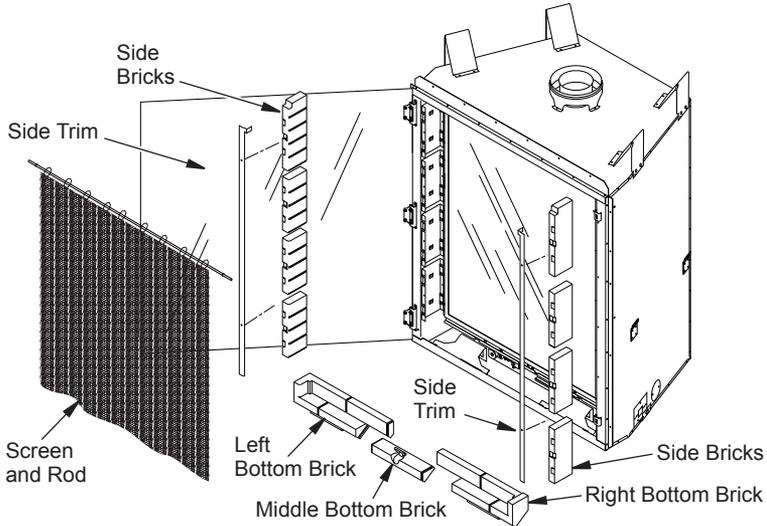

Figure 27 - Removing/Installing Brick, Side Trim and Screen
3. Remove screws from two side trims (see Figure 27, page 19).
4. Remove side bricks from top to bottom by prying out of housings(see Figure 27, page 19).
5. Remove bottom bricks, starting with middle section (see Figure 27, page 19).
6. Remove screen and rod (see Figure 27, page 19).